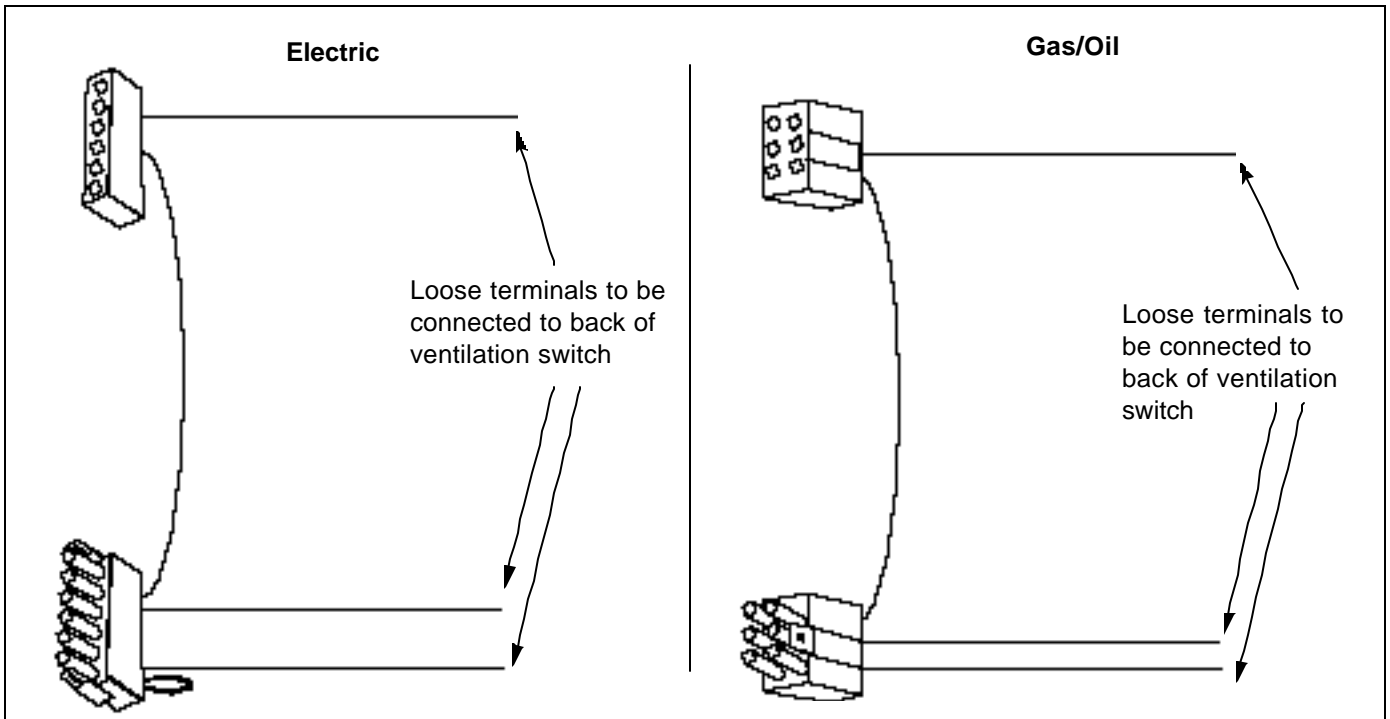

Figure 3. Wiring Harness
3. Select either the electric or gas/oil wiring harness from the extra parts package by inspecting the furnace blower plug and choosing the harness that possesses the mating plug (see Figure 3).